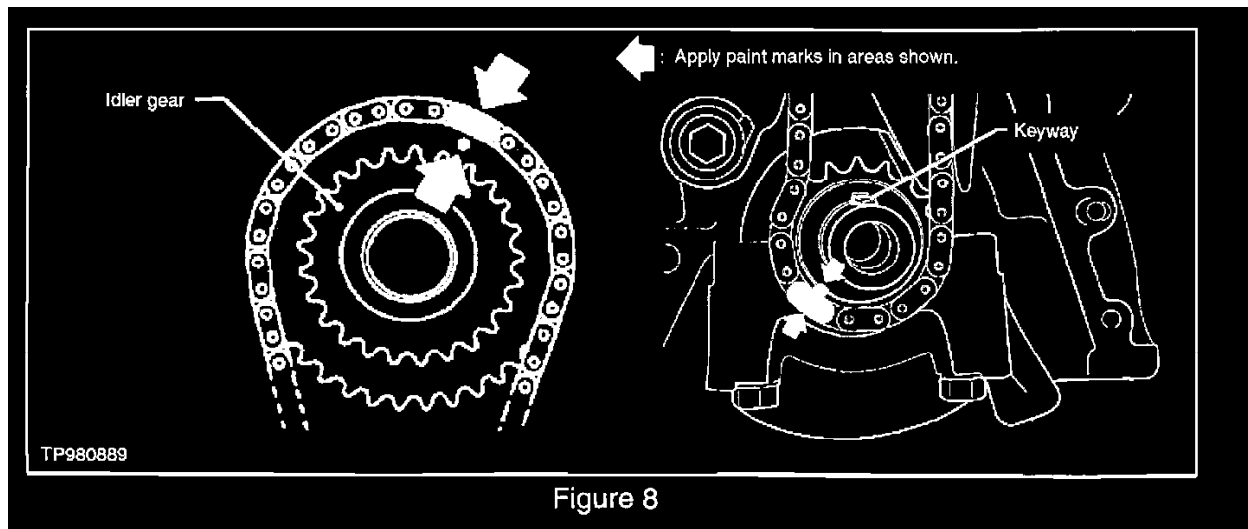

Figure 8
29. Wipe off the links of the lower timing chain next to the timing marks on the sprockets. Put paint marks on the timing chain, matching them with the timing marks on the idler sprocket and crankshaft sprocket (see Figure 8).